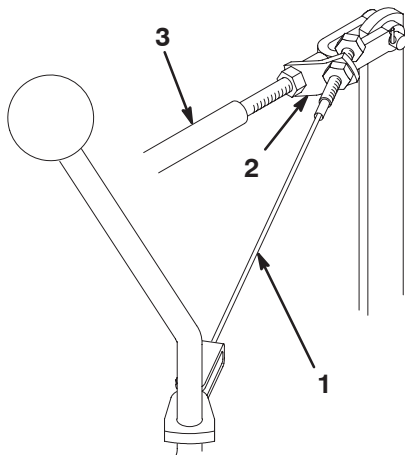

Figure 49
1. Loosen the front jam nut securing the cable assembly to the mow/lift control rod bracket (Fig. 49).
3. While holding the mow/lift control rod in the rear position, tighten the rear locknut to remove almost all of the slack from the cable assembly (Fig. 49). Do not over-tension the cable.